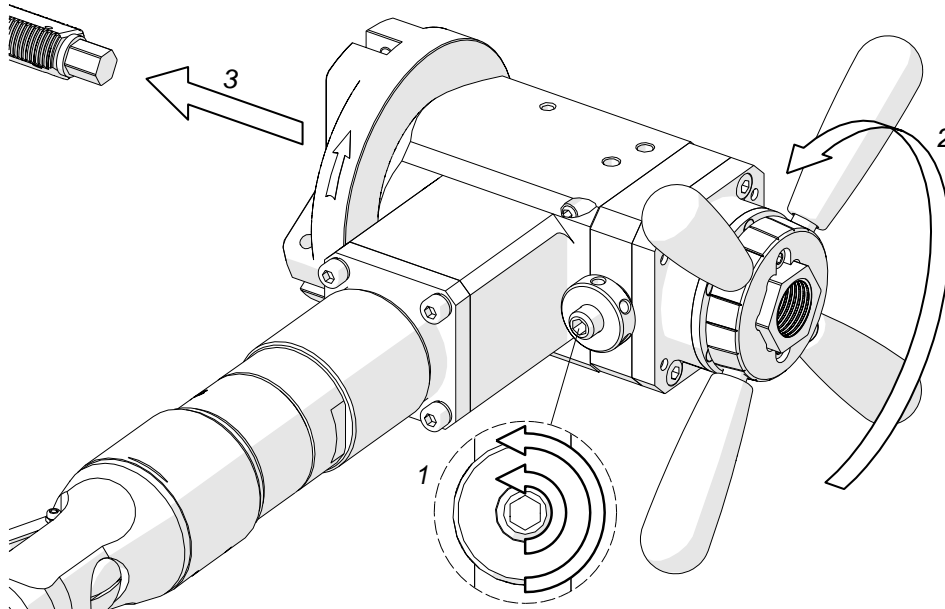
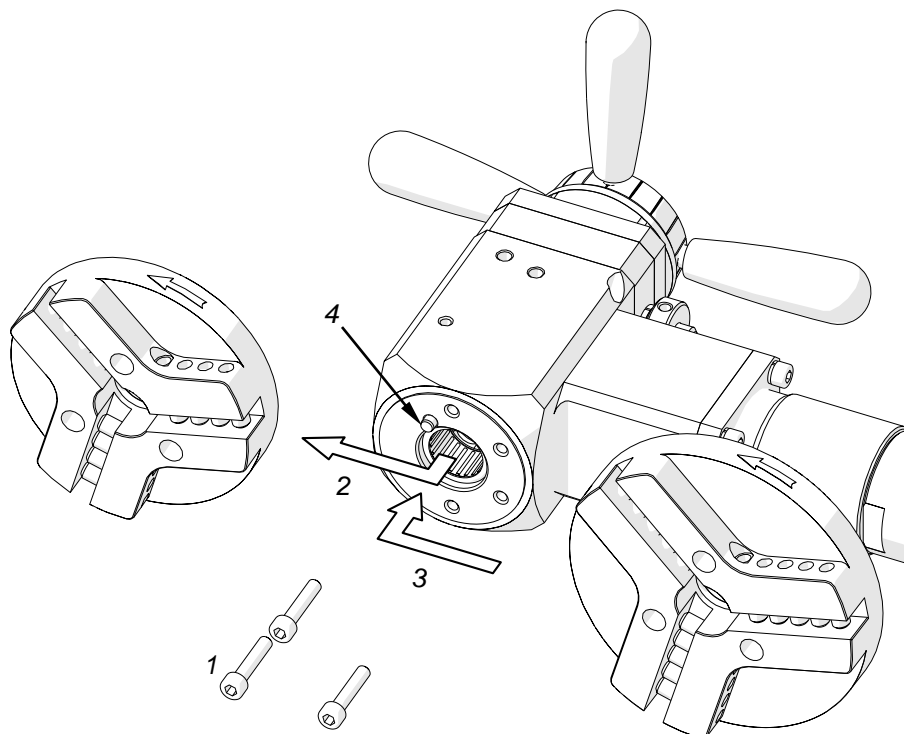

Fig. 7. Removing the mandrel from the machine
Fig. 8. Replacing the spindle disk
Loosen the nut and use the 6 mm hex wrench to loosen the set screw (1, Fig. 7) by at least one turn. Then, rotate the handles to the left (2) to remove the mandrel (3).
Use the 5 mm hex wrench (1, Fig. 8) and remove the spindle disk (2). Then, install the new disk (3) onto the pin (4) and tighten with the same screws.
Install the spindle disk after previously removing the existing spindle disk (Fig. 7, Fig. 8). Then, use the following table to select jaw blocks of the set suitable to the inner diameter of the pipe to be machined, and use the 3 mm hex wrench to tighten them to the expanding mandrel (1, Fig. 2). Install the tool bits in the sockets and use the 4 mm hex wrench to tighten the screws (3, Fig. 2).